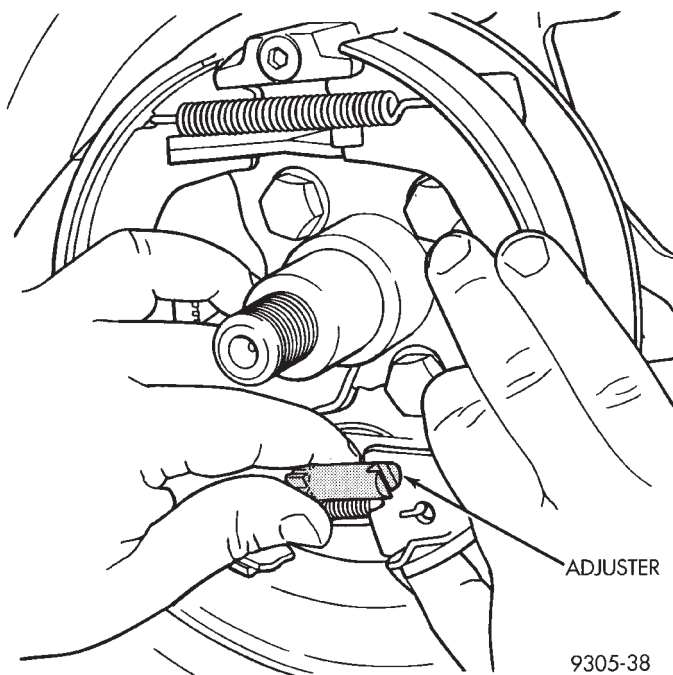

Fig. 8 Installing Adjuster Assembly
(5) Install parking brake shoe adjuster assembly with star wheel rearward (Fig. 8).